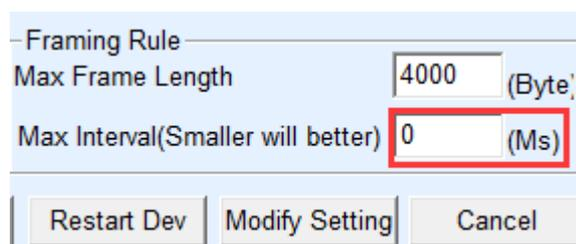

Figure 10 Reduces Packet Interval
4) As shown in figure 10, if you need to speed up the corresponding speed of the round-trip data packet, change the packet interval to 0, so that the speed of the serial port can be speeded up. After setting, click "Modify Settings". However, after this modification, the function of the serial port configuration parameter will be disabled, so it is suggested that the user can be configured with the Ethernet port to follow this setting method.